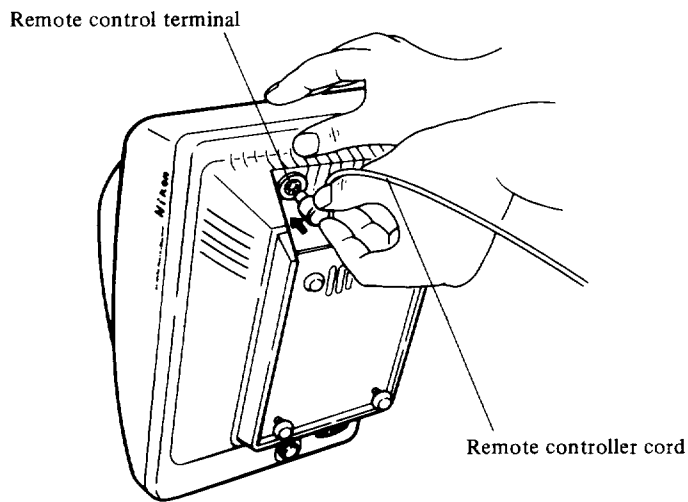

Fig. 6-10
- The remote controller with wire is available as optional accessory. To attach it, connect the leading end of the remote controller wire to the remote control terminal at the rear of the main body as shown in Fig. 6-10.